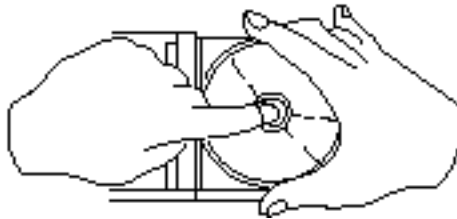

Figure 2-13 CD-ROM Handling
- **When removing the disk from its case, press down on the holder's center while lifting out the disk by its edges. (Figure 2-13.)**